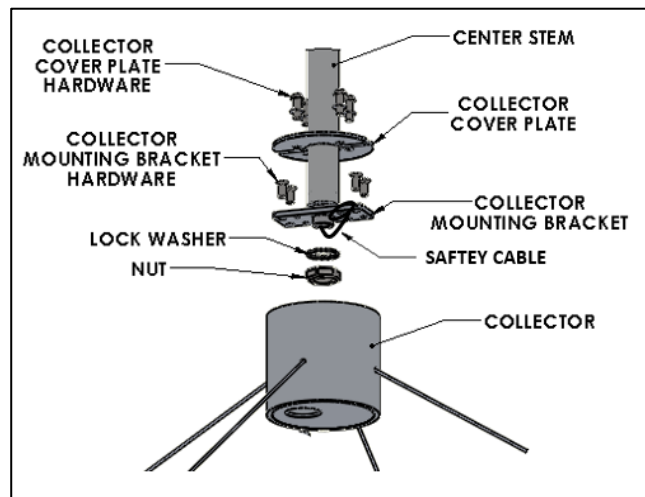

FIG. 10 – COLLECTOR INSTALLATION
4. Insert safety cable around the collector mounting bracket then attach the collector mounting bracket to the center stem with the provided hardware. Run the safety cable through the stem to the canopy. Feed aircraft cables through the small holes in the side of the collector. Attach the collector to the collector mounting bracket with provided hardware FIG.10.